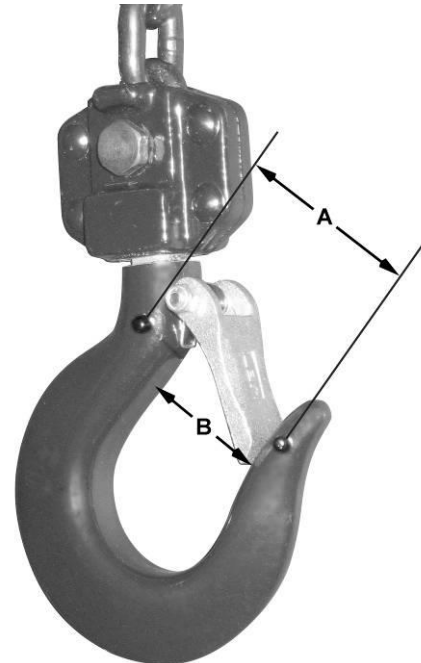

Figure 1
6. The top and bottom hooks on your JET chain hoist are designed to open to warn of an overload. Both top and bottom hooks for 0.5 to 5 ton hoists have two indicator points (A, Figure 1) cast into the hook for measurement. Refer to Table 2 (page 13) to determine if a hook needs to be replaced.
Hooks for 10- and 20-ton hoists do not have indicator points. Measurements are made at the jaw opening (B, Figure 1).